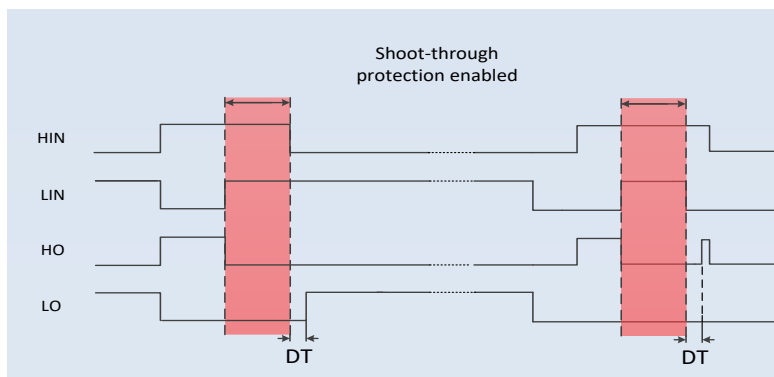

FIG.3 Shoot-through prevention
The IC is equipped with shoot-through prevention circuitry (also known as cross conduction prevention circuitry). Figure 3 shows how this prevention circuitry prevents both the high- and low-side power switches from conducting at the same time. During the inputs controlling high side driver and low side driver are both “high”, the both driver outputs are pulled down “low” to shut down two power devices in the same bridge. If one input is changed to “low”, the power switch corresponding to the “high” input turns on after a deadtime (DT).